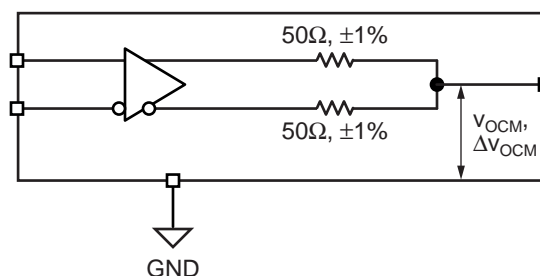

Figure 3b. LVDS Common Mode Measurement
**Note 4.** Measured as per Figure 3b.